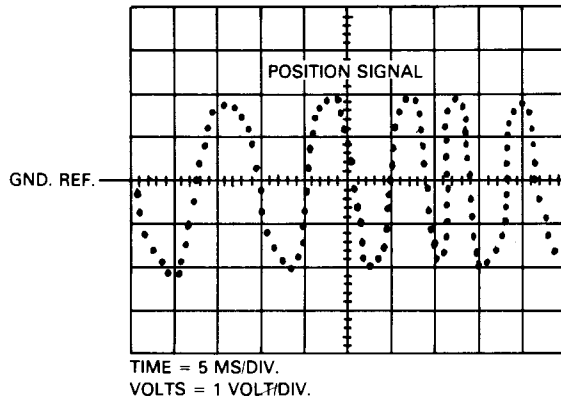

Figure 9-8 Position Signal Gain Check Waveform
9. Observe the waveform in Figure 9-8 while manually moving the carriage back and forth.